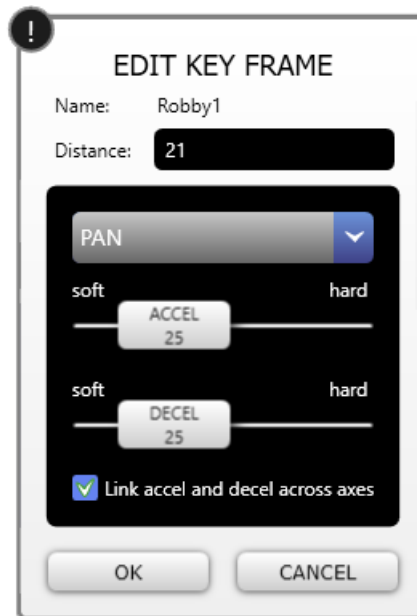

Figure 45 - EDIT KEY FRAME Dialog Box
2. In the **Keyframes** area of the **Moves** panel, tap the keyframe you want to edit. The **EDIT KEY FRAME** dialog box appears (Figure 45).
2. In the **Keyframes** area of the **Moves** panel, tap the keyframe you want to delete. The **CONFIRM DELETE** dialog box appears (Figure 45).